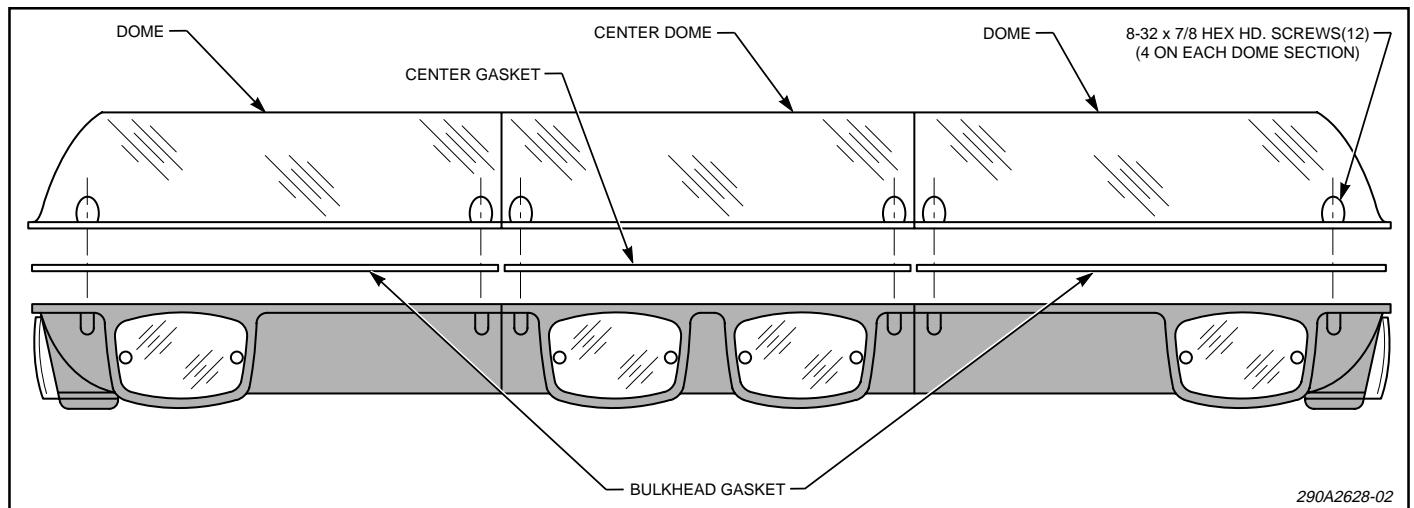

Figure 1.
**C. DOME REMOVAL (see figure 1).**